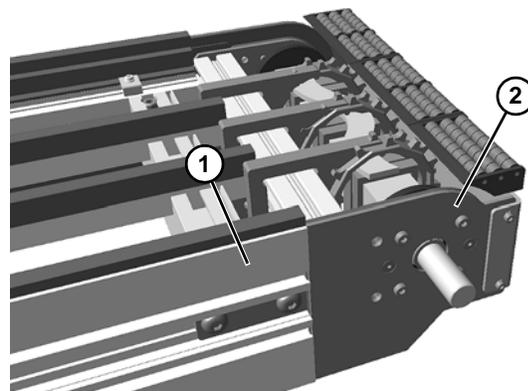

**Figure 74**
- Remove gap filler plates (**Figure 74, item 1**) from crossmember (**Figure 74, item 2**).